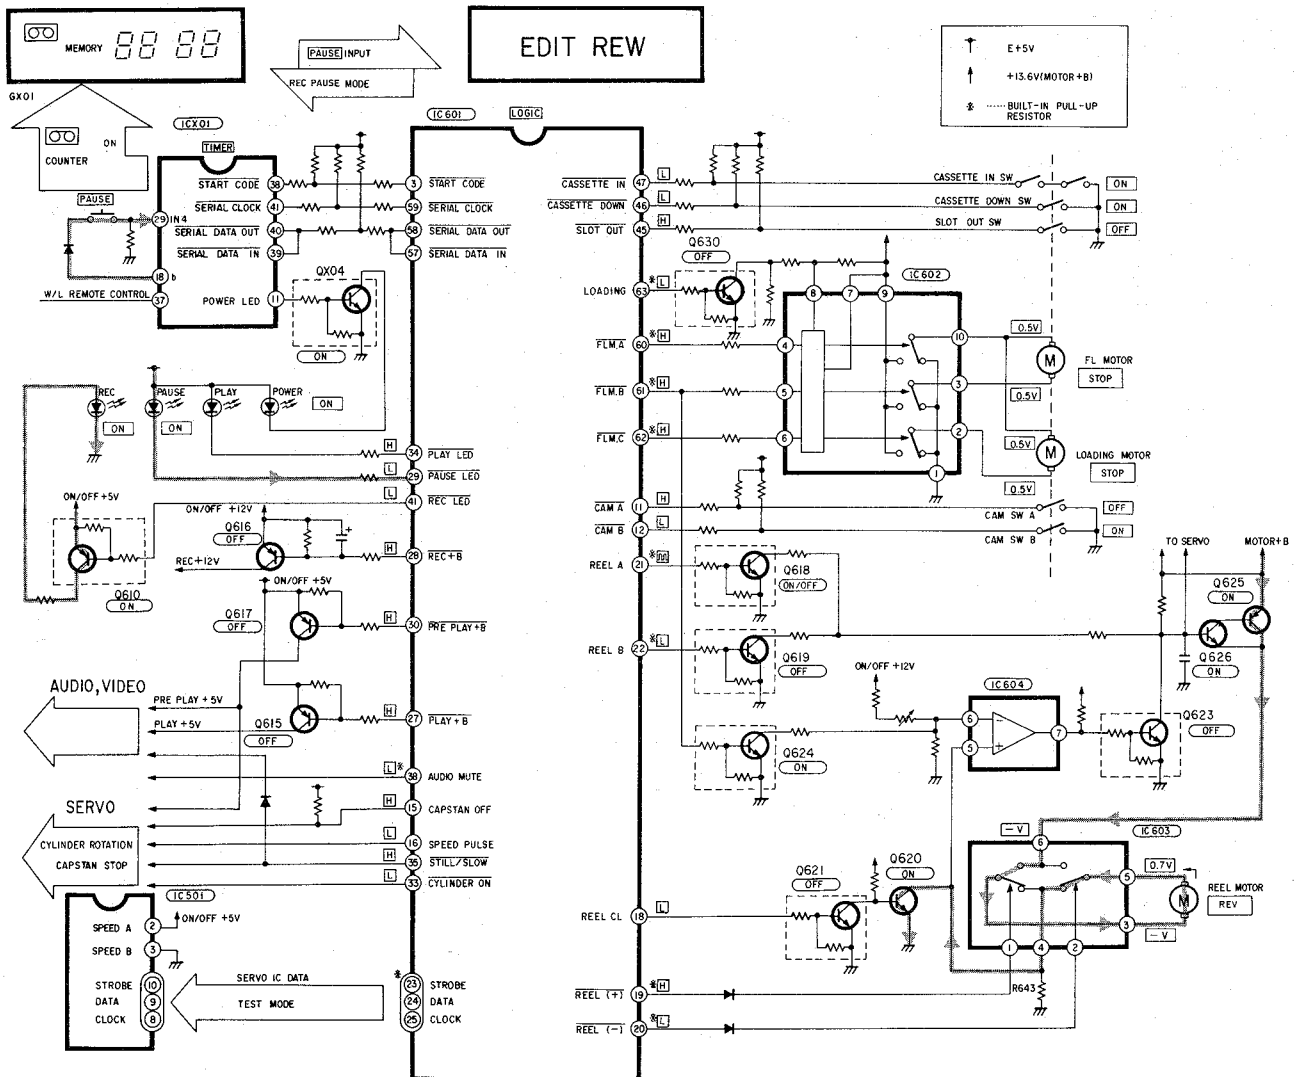

Fig. 3-5-2
- (1) When the PAUSE or STOP button is pushed during recording, IC601 is set to a record pause mode or the stop mode.
- (2) The loading motor rotates in forward direction and the cam moves from the position V to the position VI.
- (3) Each pin of IC601 develops output as shown in Fig. 3-5-2 and the record LED and pause LED light up. Pin ②⑧ develops "H" level output and Q616 turns OFF. Then the audio and video signals are muted.
- (4) The reel motor is rotated reversely by IC601 and IC603 (①⑦ - ①⑨). Tape is wound by a specified length equivalent to 100 CTL pulses and then the
- loading motor rotates in forward direction and the cam moves from the position VI to the position VII (②⑩ - ③②).
- (5) Next, the reel motor rotates in forward direction and winds the tape for a specified length and then the motor stops (③① - ③③). At the same time, the loading motor rotates in reverse direction, and the cam moves from the position VII to the position V.
- (6) Furthermore, loading motor rotates in forward direction and the cam moves from the position V to the position VII.
- (7) At the same time the reel motor rotates in forward direction and then the reel motor stops.